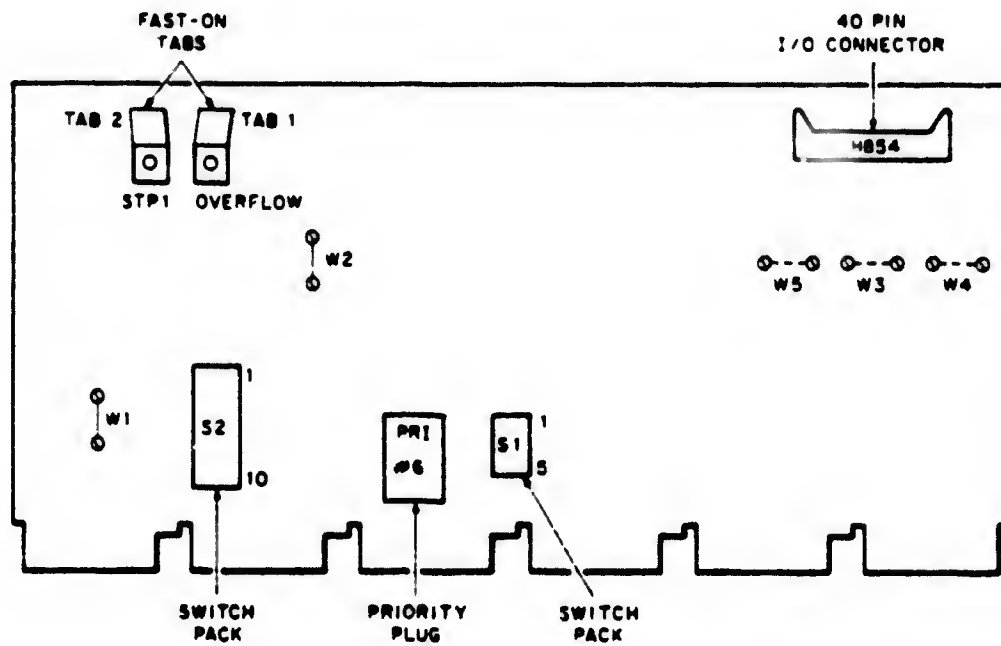

Figure 1 KW11-K M7025 Module
- 7.1.1 Refer to Figure 1 and Table A for proper address and vector selection.